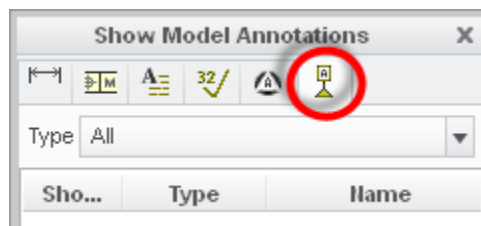

Figure 11: Model datum tab.
2. Select the *Model datum* tab (Figure 11).